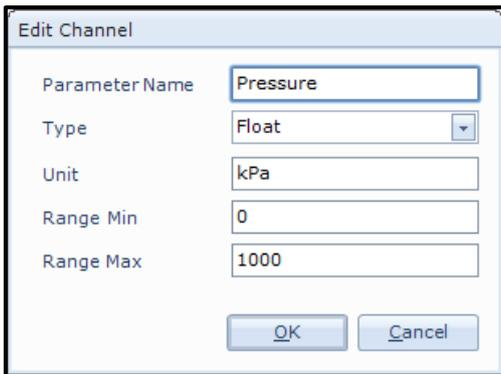

Figure 5-5: Edit channel
- Press **Edit** below the list of serial sensors to edit existing layout (refer **Figure 5-5**)